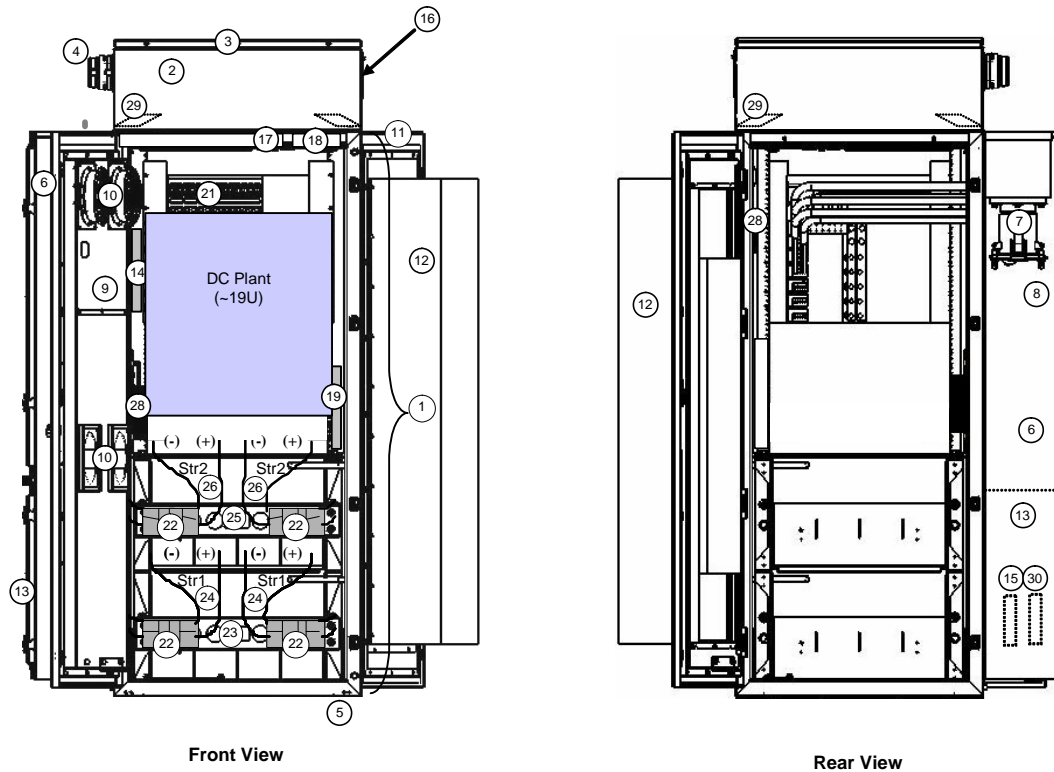

Figure 1 – RAC683031SDG2 Component Layout (+24V Configuration)
1. To access the pre-installed lifting eyes to set the cabinet, remove the hardware securing the Top Caps to the cabinet (front retaining screws) and lift them off (See Figure 1).